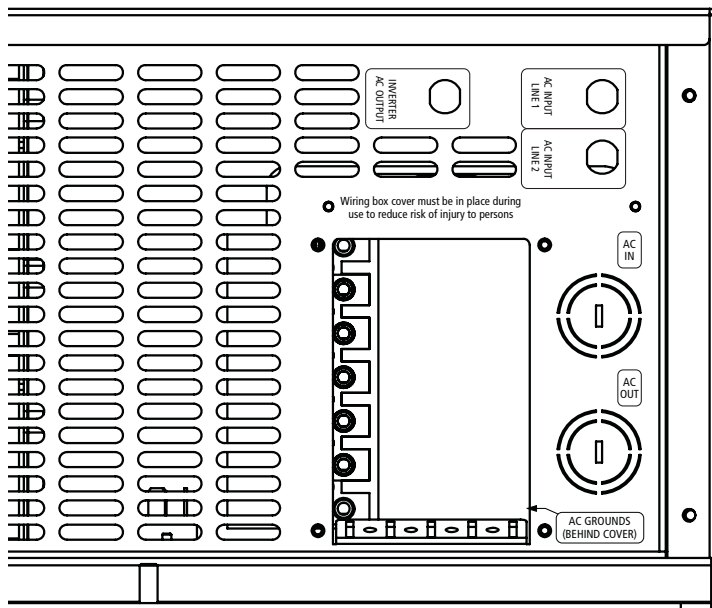

Figure 4 AC Wiring Compartment
**AC Wiring Compartment** For your reference, the AC wiring compartment is shown in Figure 4 on page 24.
Figure 4 shows the wiring compartment, which contains a grounding bus (used to wire the AC input and output ground wires) and a terminal block (used to wire the AC input and AC output connections).
8. Connect the line and neutral wires to the input terminals (labeled AC Input on the terminal block, Figure 4 on page 24). Connect Line 1 to L1, Neutral to N, Line 2 to L2.
10. Connect the ground wires to a free position on the ground bus, Figure 4 on page 24. If solid ground wire is being used, the wire can be connected directly under the screw heads. If stranded ground wire is being used, ring terminals must also be used.
5. Connect the line and neutral wires to the output terminals (labeled AC Output on the terminal block, Figure 4 on page 24) as follows:
7. Connect the ground wires to a free position on the ground bus, Figure 4 on page 24. If solid ground wire is being used, the wire can be connected directly under the screw heads. If stranded ground wire is being used, ring terminals must also be used.